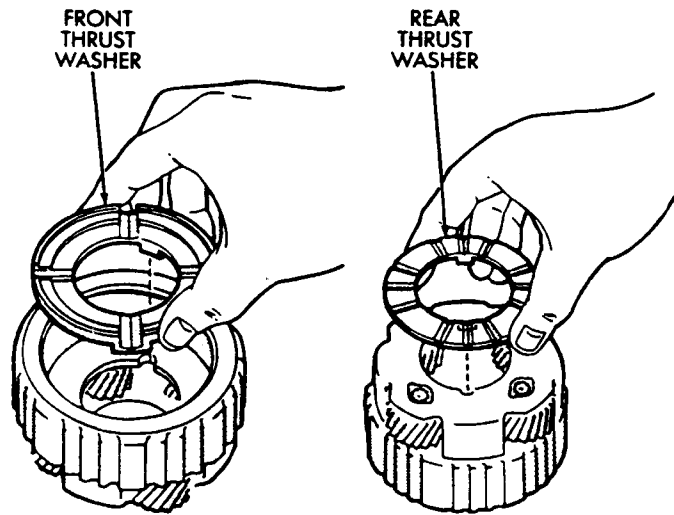

Fig. 9 Removing/Installing Rear Planetary Thrust Washers
(4) Coat planetary thrust washers with petroleum jelly and install them in gear (Fig. 9).